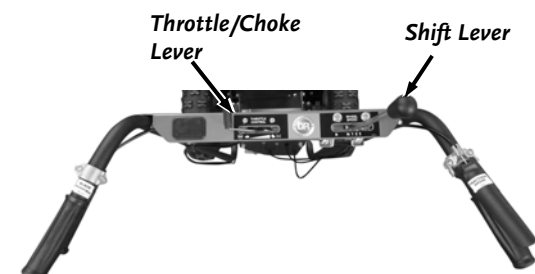

Figure 13
1. Move the Shift Lever to the Neutral **N** position (**Figure 13**).
4. As the engine warms up, slowly adjust the Throttle to the Fast  position (**Figure 13**).
1. Move the Shift Lever to the desired gear (**Figure 13**).